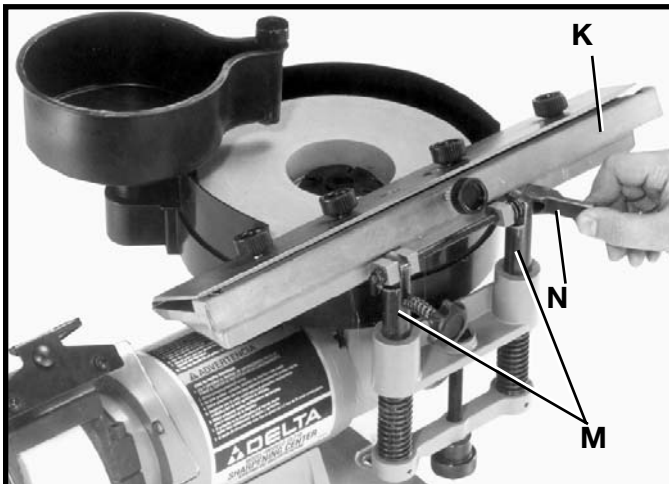
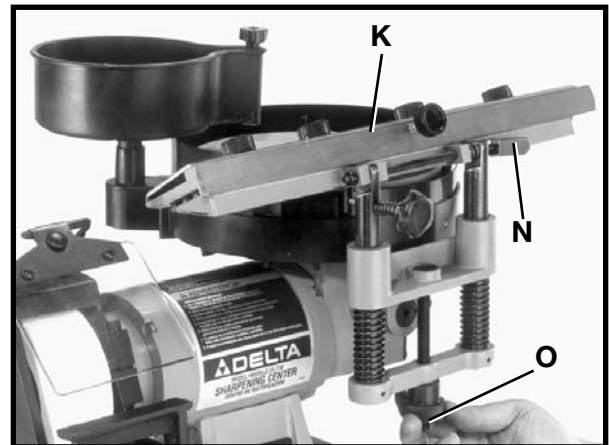

Fig. 43
Fig. 44
7. To raise sliding tool rest (K) Fig. 43, unlock two posts (M) by moving clamp lever (N) to the right, as shown. Rotate knob (O) Fig. 44, clockwise to raise, or counterclockwise to lower the tool rest (K). After the height of tool rest (K) is set, move clamp lever (N) to the left in the locked position.